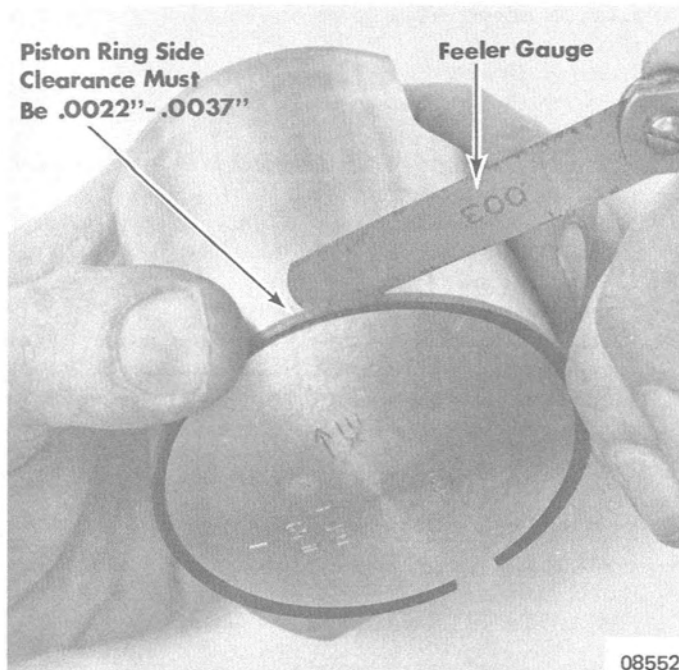

Figure 7. Checking Piston Ring Side Clearance
2. With piston ring seated in ring groove, check piston ring side clearance with a feeler gauge. Insert feeler gauge between lower edge of piston ring and ring groove. (Figure 7) Side clearance must be within .0022"-.0037" (.056mm-.094mm). If side clearance is in excess of these tolerances, ring groove is worn beyond limits, and piston(s) must be replaced.